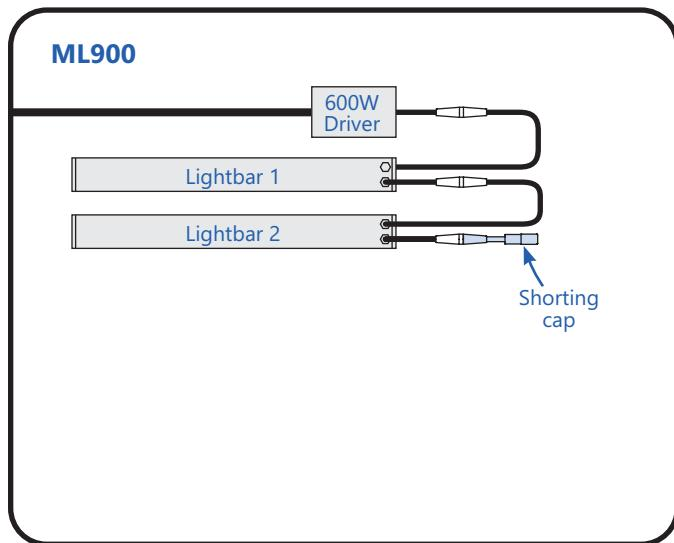

Figure 2
### For ML900 (see Fig. 2)
- ① Turn OFF power to driver.
- ② Remove the shorting cap from the Lightbar#2 in Figure 2.
- ③ Connect shorting cap to Lightbar#1. Turn driver power ON.
- ④ If lightbar turns on, then Lightbar#2 is faulty.